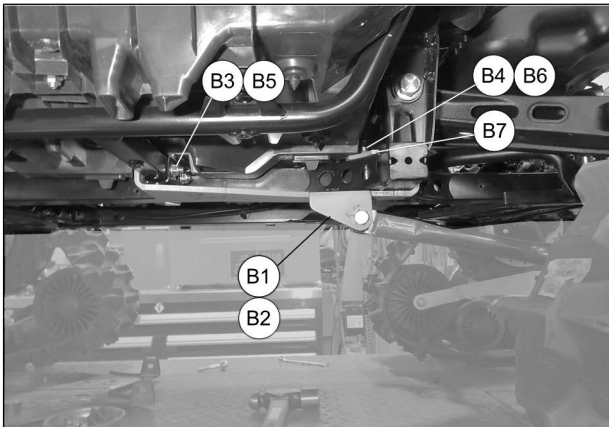

Fig. 15
13. Final installation of rear anchor plates (**B1-B2**) under vehicle: M8 bolts (**B3**) & nuts (**B5**) facing front, cover plates (**B7**), M10 bolts (**B4**) and nuts (**B6**) facing rear. See Fig. 15